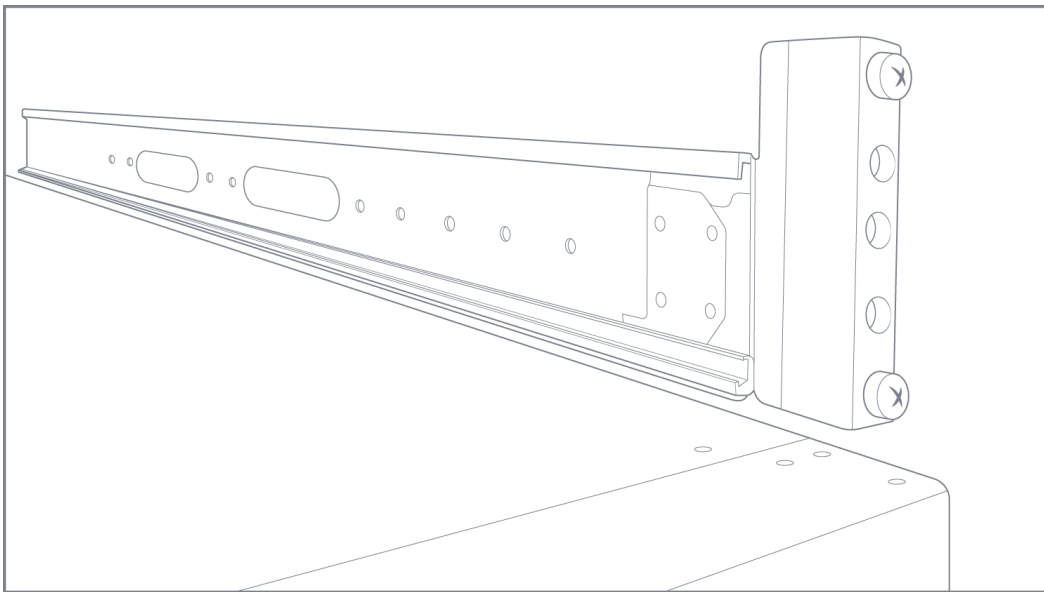

Figure 2: Slide Rail Installed in Four Post Rack
5. Locate an open 3RU rack space and install the left and right rails of the mounting slide in the rack. The assembly for a four-post rack differs from the assembly for a two-post rack. Refer to Figure 2: Slide Rail Installed in Four Post Rack.